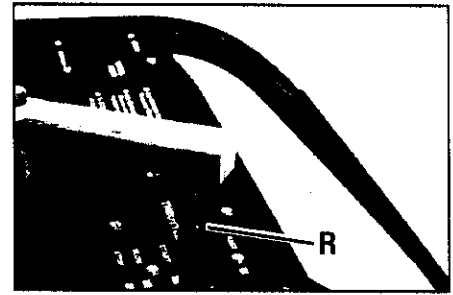

Figure 2-12: Attach engine throttle lever.
1. Route the throttle cable up the right-side handlebar. Insert its lever (R, Figure 2-12) up through the slot in the control panel labeled "ENGINE THROTTLE."
4. Place the "T" shaped engine throttle lever knob on the end of the lever. Use a board to tap knob until it seats firmly on lever (Figure 2-12).